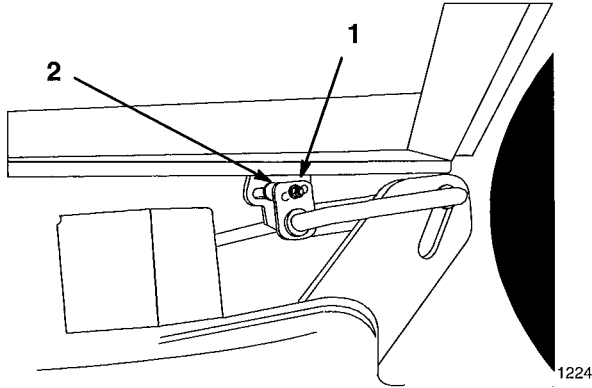

Figure 11
4. Loosen adjustment bolt on one side and rotate hanger bracket to raise or lower mower (Fig. 11).